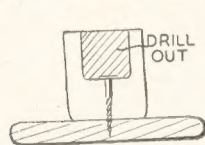

Fig. 6—Details of match holder
piece from the main branch of the antler, to the depth you require. Bore out the centre of the branch to the required depth then countersink a screw through the centre and into the baseboard (B), shown in Fig. 6. A pair mounted on a suitable baseboard make excellent ink-well holders as seen in the diagram at Fig. 7.